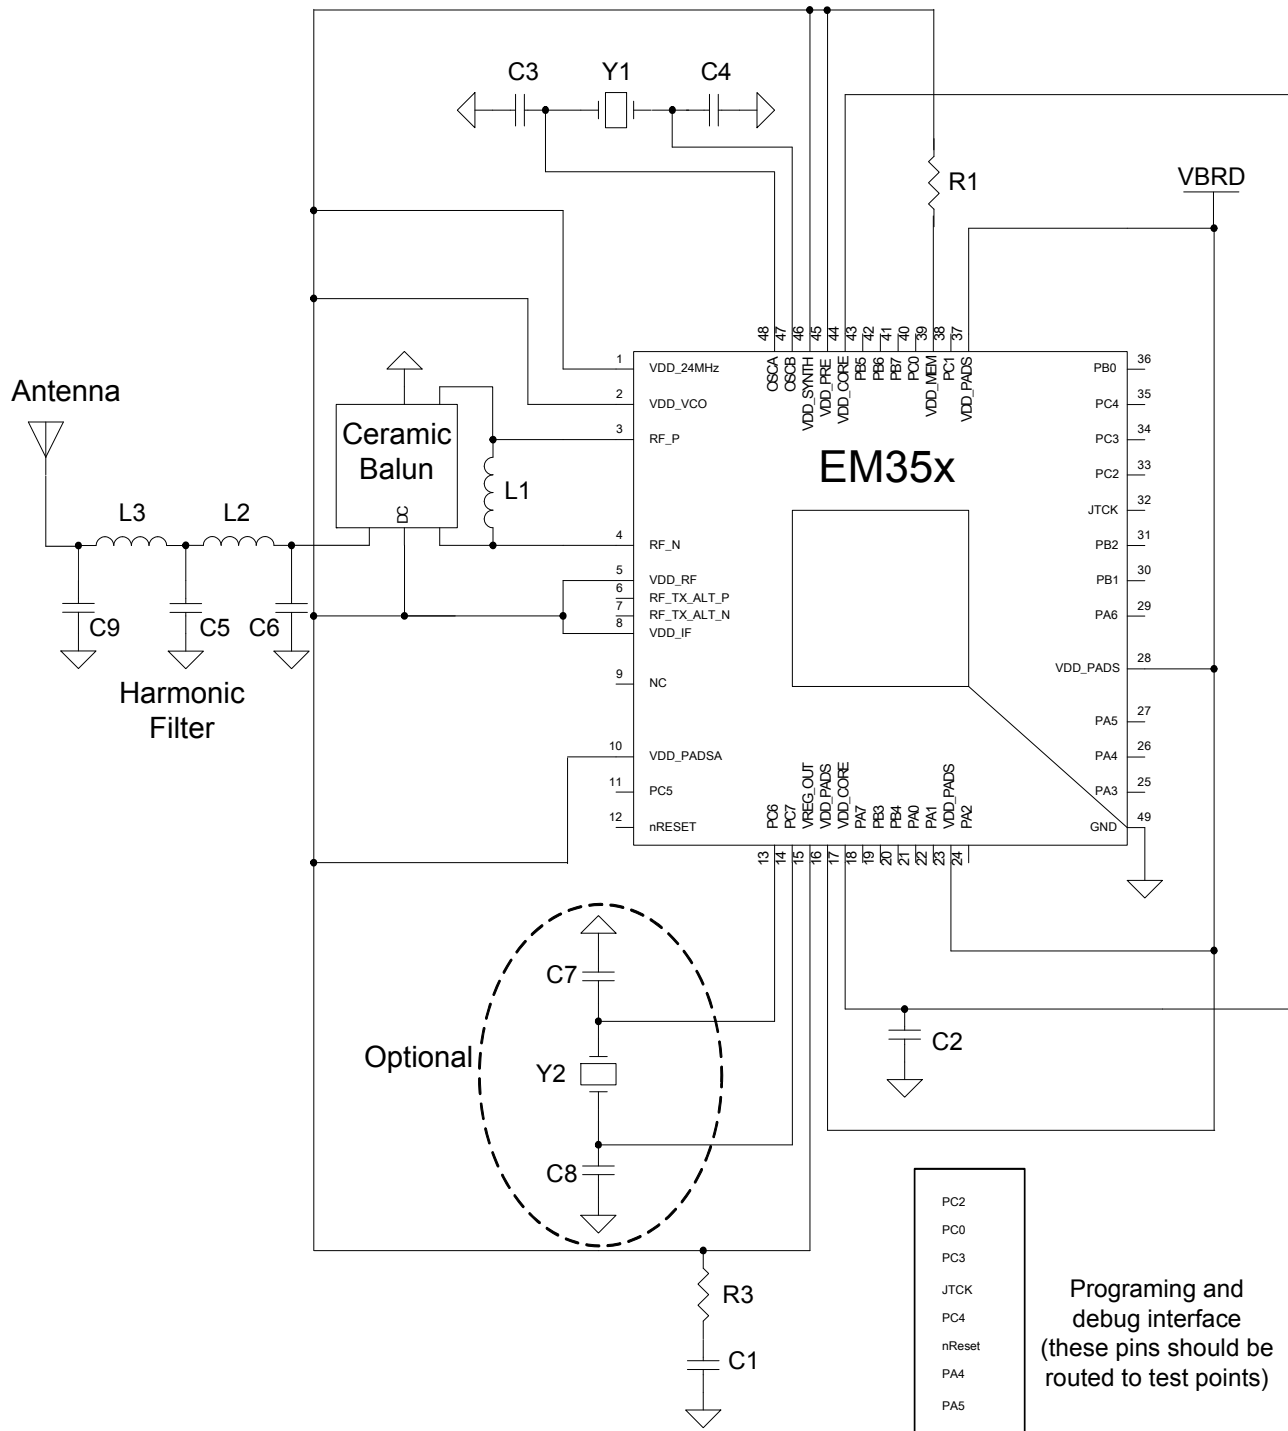

Figure 1.1. Typical Application Circuit
Figure 1.1 illustrates the typical application circuit, and Table 1.1 contains an example bill of materials (BOM) for the off-chip components required by the EM35x.
**Note:** The circuit shown in Figure 1.1 is for example purposes only, and the BOM is for budgetary quotes only. For a complete reference design, please download one of the latest Ember Hardware Reference Designs from the Silicon Labs website ([www.silabs.com/zigbee-support](http://www.silabs.com/zigbee-support)).
Table 1.1 contains a typical Bill of Materials for the application circuit shown in Figure 1.1. The information within this table should be used for a rough cost analysis. For a more detailed BOM, please refer to one of Ember EM35x-based reference designs at the Silicon Labs website ([www.silabs.com/zigbee-support](http://www.silabs.com/zigbee-support)).